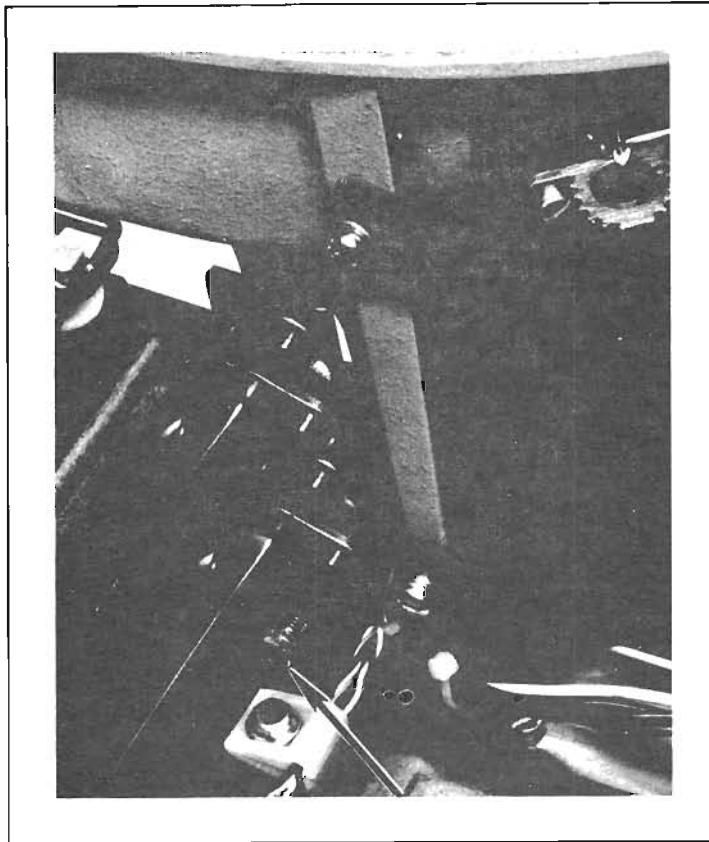

FIGURE 4-18 TRACK ZERO ADJUSTMENT SCREW
3. Locate the track zero adjustment screw. This is an Allen screw located just below the bail plate as shown in Figure 4-18.